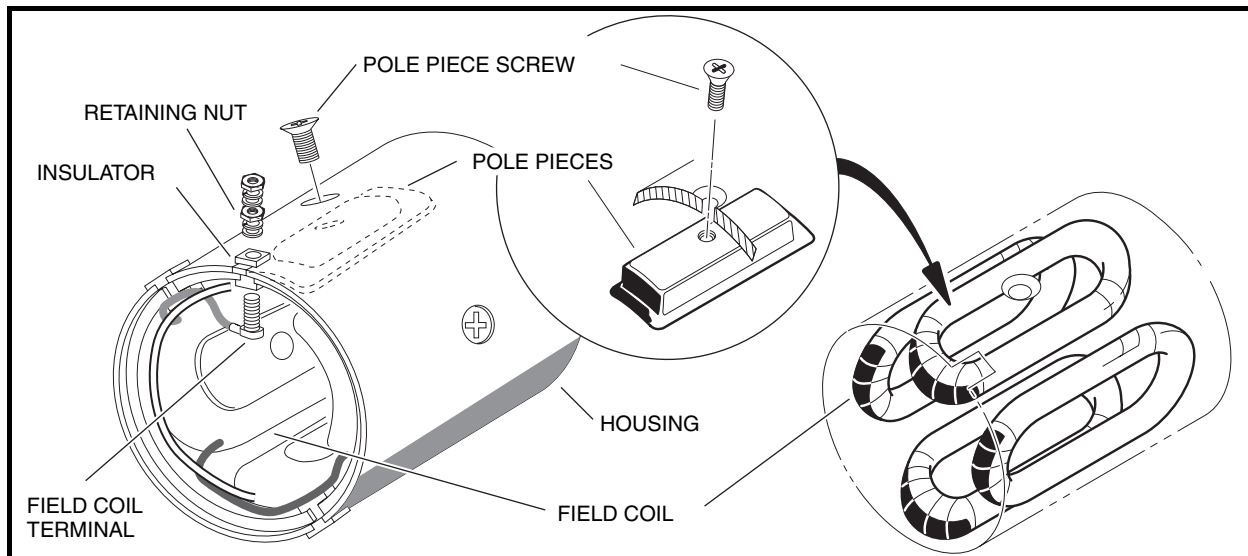

Figure 12-10 Field Coil Removal
1. Remove the retaining nut from each field coil terminal and slide the insulator out of the slots in the housing. Remove the four pole piece screws from the housing. Remove the four pole pieces from inside the housing. Remove the field coils from the inside of the housing (**Figure 12-10, Page 12-6**). **See following NOTE.**
NOTE: Do not remove the insulators or the field coils unless an electrical test indicates that it is necessary (**Figure 12-10, Page 12-6**). **See Test Procedure 8, Section 11, Page 11-19.**
2. After the insulators are seated in the slots, install the threaded terminals through the wire connectors and then through the insulators. Install a flat washer, lockwasher and nut onto each threaded terminal on the outside of the housing. Tighten nuts to 47.5 in-lb (5.4 N·m) (**Figure 12-10, Page 12-6**). See following **CAUTION**.
3. Install the four pole pieces into the housing. Use the four screws to secure pole pieces to the inside of the housing to retain the field wires. Tighten screws to 9 ft-lb (12.2 N·m) (**Figure 12-10, Page 12-6**).